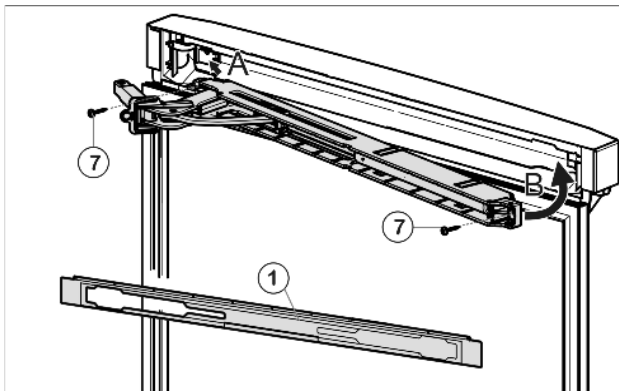

Fig. 31
- ▶ With the hinge of the upper soft stop unit facing the door hinge side, engage the soft stop unit (A) and swivel inwards (B).
- ▶ Tighten soft stop unit (2 x Torx 15) *Fig. 31 (7)*.